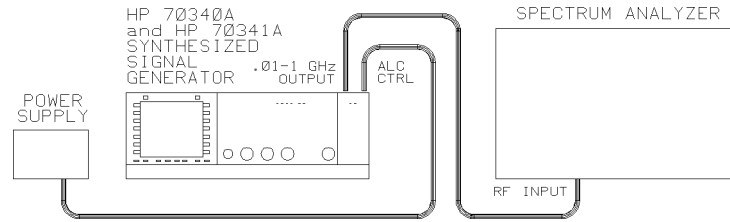

Figure 1-2. ALC Troubleshooting Test Setup 2
6. Remove the cable from the HP 70341A rear panel ALC CTRL input and connect the instruments as shown in Figure 1-2. with the spectrum analyzer connected to the HP 70341A rear panel .01 to 1 GHz OUTPUT.